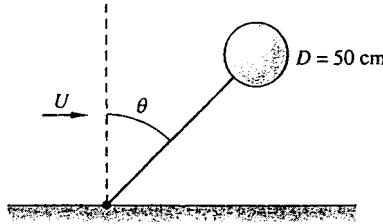

Fig. P7.75
**7.75** The helium-filled balloon in Fig. P7.75 is tethered at  $20^\circ\text{C}$  and 1 atm with a string of negligible weight and drag. The diameter is 50 cm, and the balloon material weighs 0.2 N, not including the helium. The helium pressure is 120 kPa. Estimate the tilt angle  $\theta$  if the airstream velocity  $U$  is (a) 5 m/s or (b) 20 m/s.